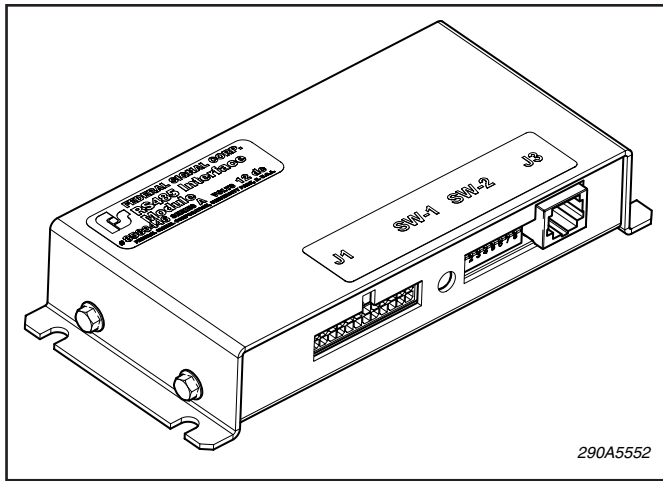

Figure 1.
The Serial Interface Module can be identified by part number 8583446 on the nameplate located on the top of the unit. The 8583446-INT has been configured for internal SignalMaster operation. This module can be identified by a label stating "FACTORY CONFIGURED FOR INTERNAL SIGNALMASTER". A 3-foot long 24-conductor control link cable harness is also provided for external connection (J1) to the module (see figure 1).
4. See figure 1. Install the lightbar's serial cable to noted J3 output jack of the Interface Module.
5. See figure 1. Install supplied 3' long 24-conductor cable to noted J1 input connector of the Interface Module.